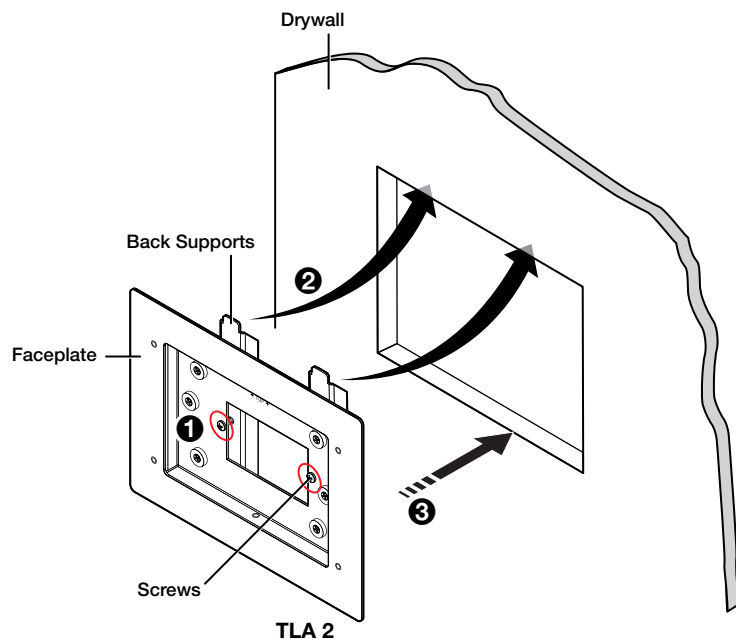

Figure 3. Installing the TLA 2 in Drywall
Figure 3 shows how to install the TLA 2 into a preexisting hole cut in drywall.
3. Loosen the screws holding the back bars of the TLA 2 (see figure 3, **1**).